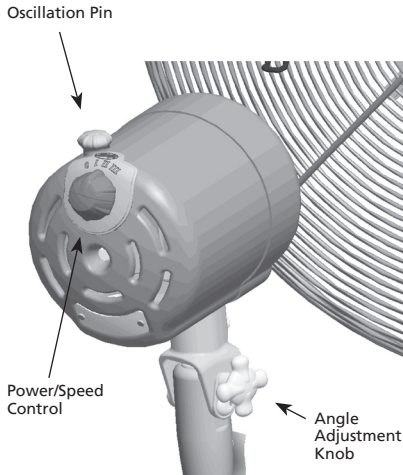

FIGURE 15
3. Turn the fan "ON" or "OFF" by rotating clockwise or counterclockwise the Power/Speed Control. See Figure 15. The power should always be OFF before unplugging the fan.
5. To adjust the upward or downward flow of air, loosen the Angle Adjustment Knob beneath the Fan Motor. See Figure 15. Position the fan to the desired angle, and tighten the Angle Adjust knob.
6. To make the fan oscillate, push the Oscillation Pin down. To stop the fan from oscillating, pull the Oscillation Pin up. See Figure 15.